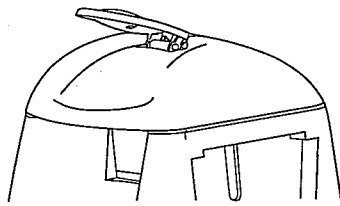

Figure 5
5. Lift the Lid by gently pulling up on the Lever. The Lid will pop up and open. See Figures 5, 6, and 7.
3. Lift the Lid by gently pulling up on the Lever. The Lid will pop up and open. See Figures 5, 6, and 7.